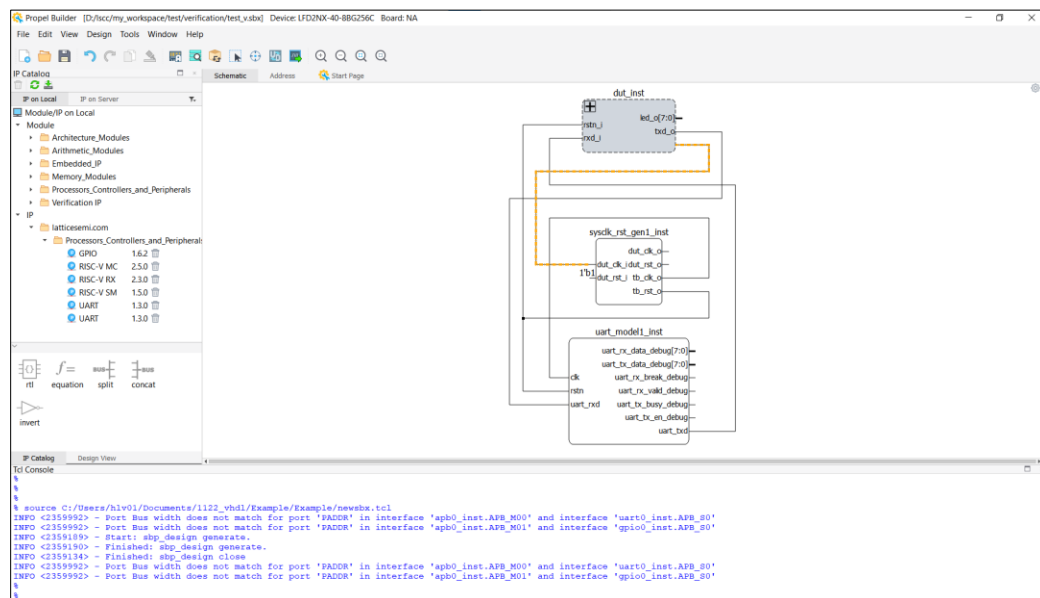

Figure 5.4. Launch TCL Script to Create New Project
- To launch this TCL script to create a new project, make sure no design is currently open in Lattice Propel Builder. Type source <tcl_path> in the TCL console, as shown in the example below (Figure 5.4):